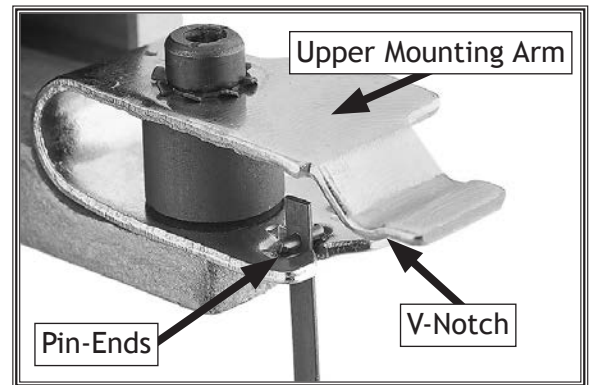

Figure 27. Upper blade mounting arm.
5. Push down on upper blade mounting arm shown in Figure 27, slide blade out of upper and lower mounting arms, then remove it.
8. Push upper blade mounting arm down, then slide upper pin-ends onto V-notch of the blade holder, as shown in Figure 27.